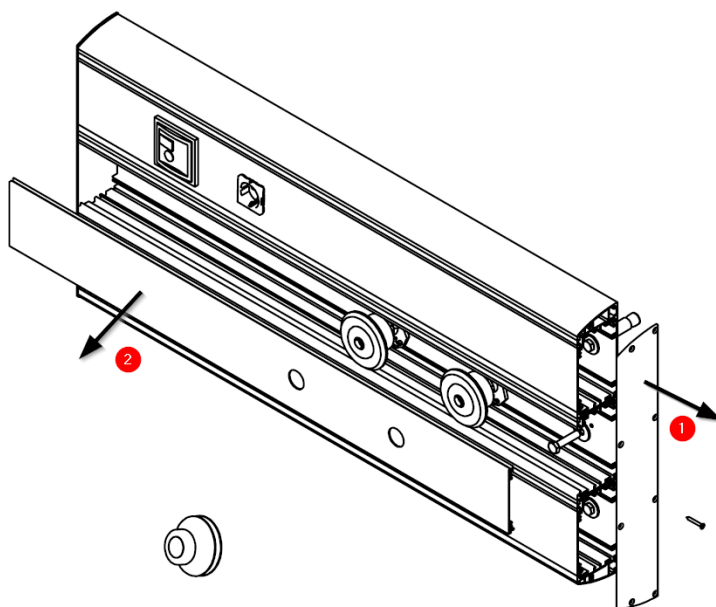

Fig.2 Removal of the side wall and subsequently of the front gas cover
For surface-mounted units where the unit is ordered with PVC end caps, at least one end cap (1) must be removed before removing the gas circuit cover (2) (see Fig. 2).